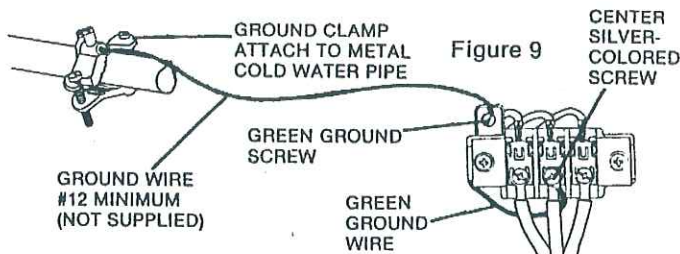

Figure A9
2. Remove the green ground wire from the green ground screw and fasten under the center silver-colored terminal on the terminal block (Figure A9).
3. Connect a separate grounding wire (No. 12 or heavier) between the ground screw and a metal cold water pipe (Figure A9). Do not ground to a gas supply pipe or hot water pipe.